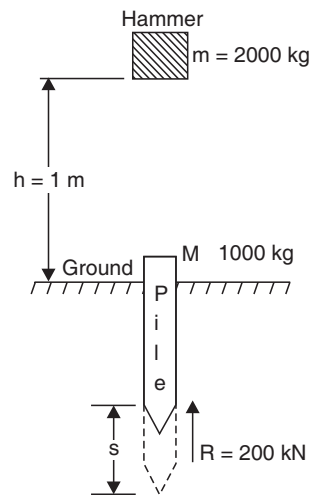

Fig. 9.7
**Solution.** Refer to Fig. 9.7